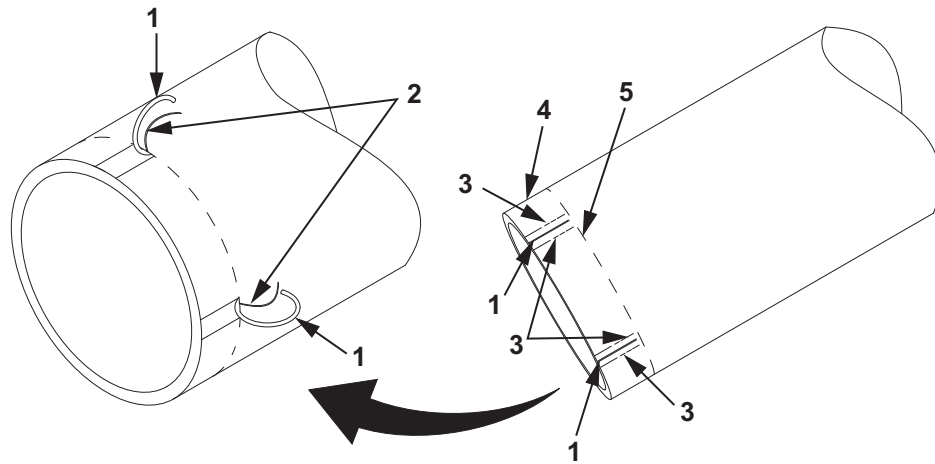

Figure 5. Hose Assembly Repair.
12. Using a knife, cut the reinforcement threads (Figure 5, Item 3) of the hose assembly fabric (Figure 5, Item 4) by cutting along each side of the ground wire (Figure 5, Item 1) as close as possible without cutting the ground wire (Figure 5, Item 1) or the red filament (Figure 5, Item 2) surrounding the ground wire (Figure 5, Item 1). Ensure not to cut all the way through the hose assembly fabric (Figure 5, Item 4).
13. Using the needle nose pliers, expose the ground wire (Figure 5, Item 3) back to the radial line (Figure 5, Item 5) by grabbing the ground wire (Figure 5, Item 1) and rolling the pliers so that the ground wire (Figure 5, Item 1) is rolled back over the plier jaws.
14. Using the needle nose pliers, hold the ground wire (Figure 5, Item 1) so that it doesn't get damaged and cut the hose assembly fabric (Figure 5, Item 4) at the radial line (Figure 5, Item 5), removing the rest of the hose assembly fabric (Figure 5, Item 4) from around the ground wire (Figure 5, Item 1). Discard excess hose assembly fabric (Figure 5, Item 4).
15. Expose the other three ground wires (Figure 5, Item 1) using the same procedures.
16. After all four ground wires (Figure 5, Item 1) have been exposed, cut all excess hose assembly (Figure 5, Item 4) fabric out at the radial line (Figure 5, Item 5) previously marked. Discard excess hose assembly (Figure 5, Item 4) fabric.
17. Remove the red filament (Figure 5, Item 2) surrounding each ground wire (Figure 5, Item 1). Discard red filament (Figure 5, Item 2).